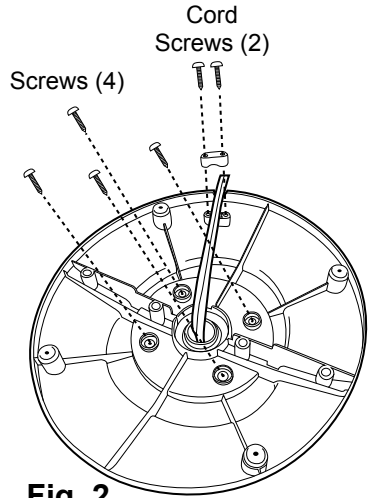

Fig. 2
Line up the 4 holes on the bottom of the body to the 4 holes on the top of the base. Use a Phillips head screwdriver to tighten the **screws (4)** to secure the base to the fan body. **PLEASE DO NOT OVER TIGHTEN THE SCREWS** (Fig. 2).
Remove the 2 Screws and Cord Clasp and place the power cord under the cord clasp and re-secure with the 2 screws. (Fig. 2).